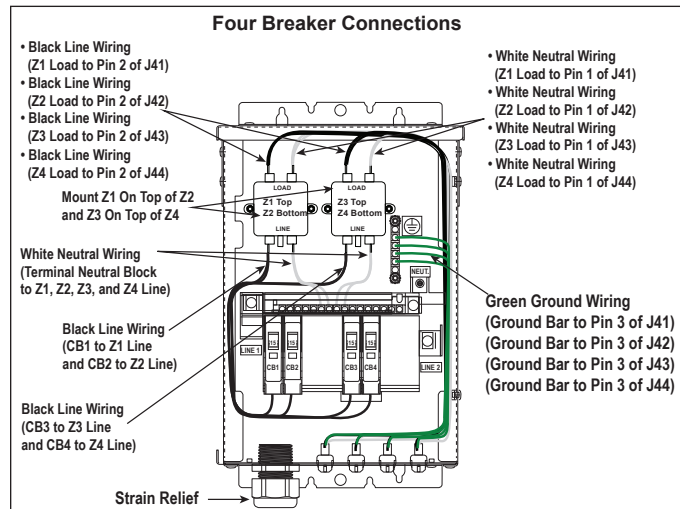

Figure 5: Single-phase Four Breaker Domestic Panel
4. The ground wire connects to the grounding bus bar. Refer to **Figure 5** for an example.